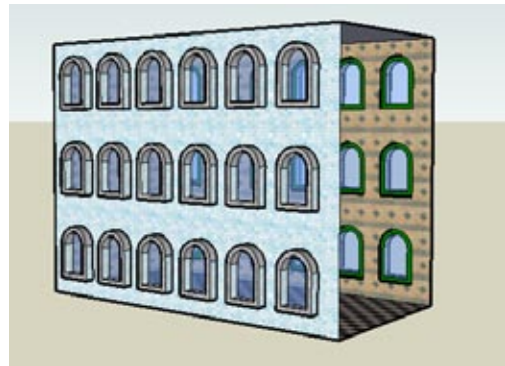

Figure 1-15
15. Orbit to face the back wall, and click the same midpoint on this wall. The finished building is shown in Figure 1-15.